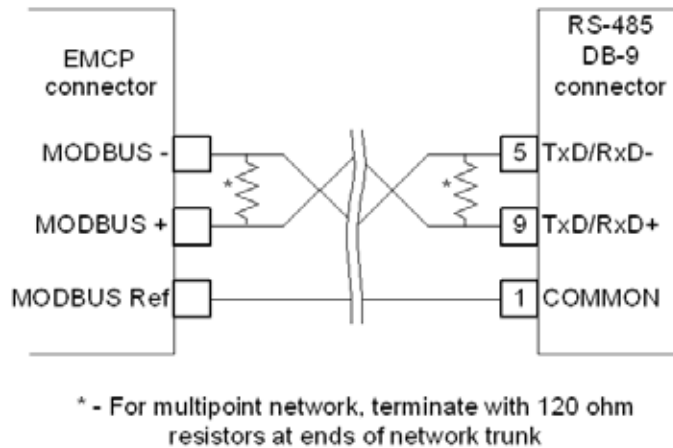

Figure 27.1 – Possible Wiring Configuration To An RS-485 Device
- Figure 27.1 shows a possible wiring configuration to a RS-485 device.